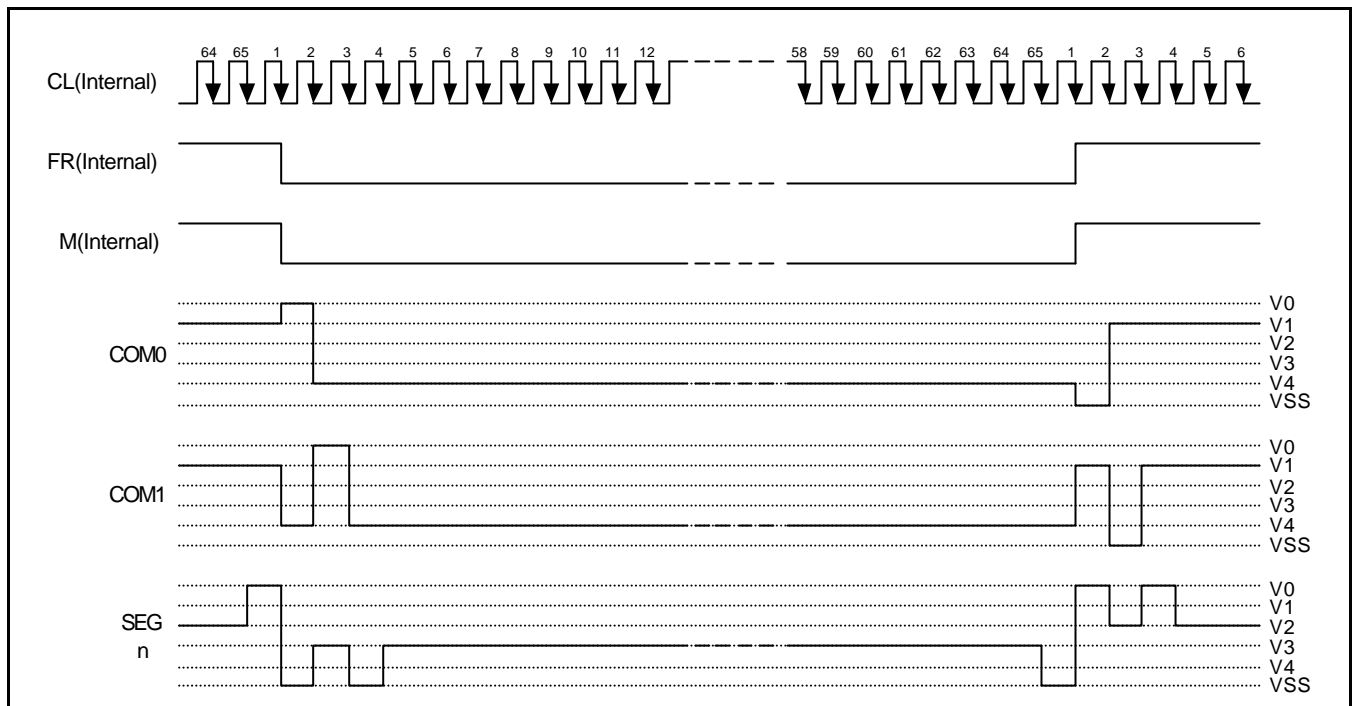

Figure 12. 2-frame AC Driving Waveform (Duty Ratio = 1/65)
This circuit generates some signals to be used for displaying LCD. The display clock, CL(internal), generated by oscillation clock, generates the clock for the line counter and the signal for the display data latch. The line address of on-chip RAM is generated in synchronization with the display clock and the display data latch circuit latches the 96-bit display data in synchronization with the display clock. The display data, which is read to the LCD driver, is completely independent of the access to the display data RAM from the microprocessor. The display clock generates an LCD AC signal (M) which enables the LCD driver to make a AC drive waveform, and also generates an internal common timing signal and start signal to the common driver. The frame signal or the line signal changes the M by setting internal instruction. Driving waveform and internal timing signal are shown in Figure 12.